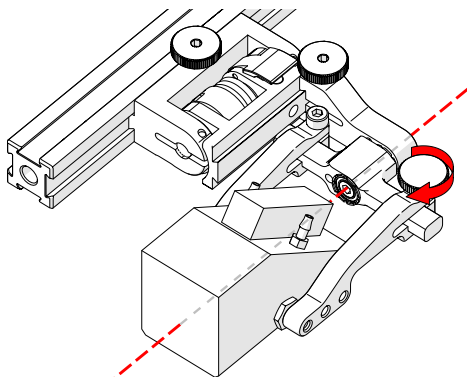

Fig. 71 - Pinch wedge with arm
10. Tighten probe holder arm adjustment knob (Fig. 71).